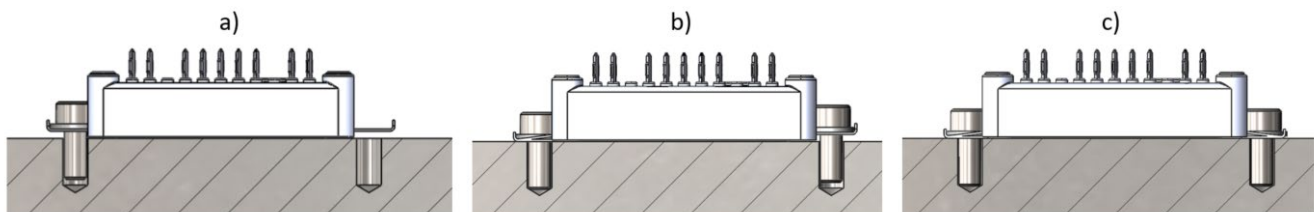

Figure 23. Mounting Method 3
*Method 3:* Insert one screw and tighten until the screw contacts the mounting tab without bending it. Next, insert the second screw and tighten to the recommended mounting torque of the module (2 – 2.3 Nm). Lastly, tighten the first screw to the recommended mounting torque of the module (Figure 23).